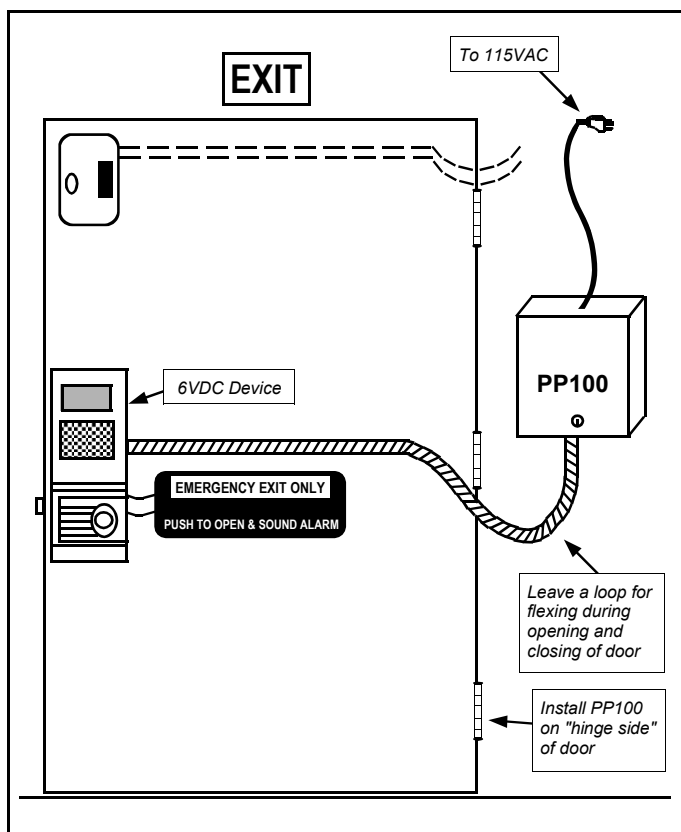

Figure 1: Typical "Surface Mounted" Application
5. For surface mounted applications, secure armored cable using cable clamps and #6 self-tapping screws (provided). If installing on the hinge side of a door as shown in Figure 1, be sure to leave a loop near the hinges for flexing when door is opened and closed.
For surface mounted devices where the PP100 and its armored power cable are mounted to a surface (such as a wall or a rear door surface as shown in Figure 1), a  $\frac{1}{2}$ " hole and cable notch "slot" must be cut into the side of each device's alarm box or lock cover (see Figures 4-7).